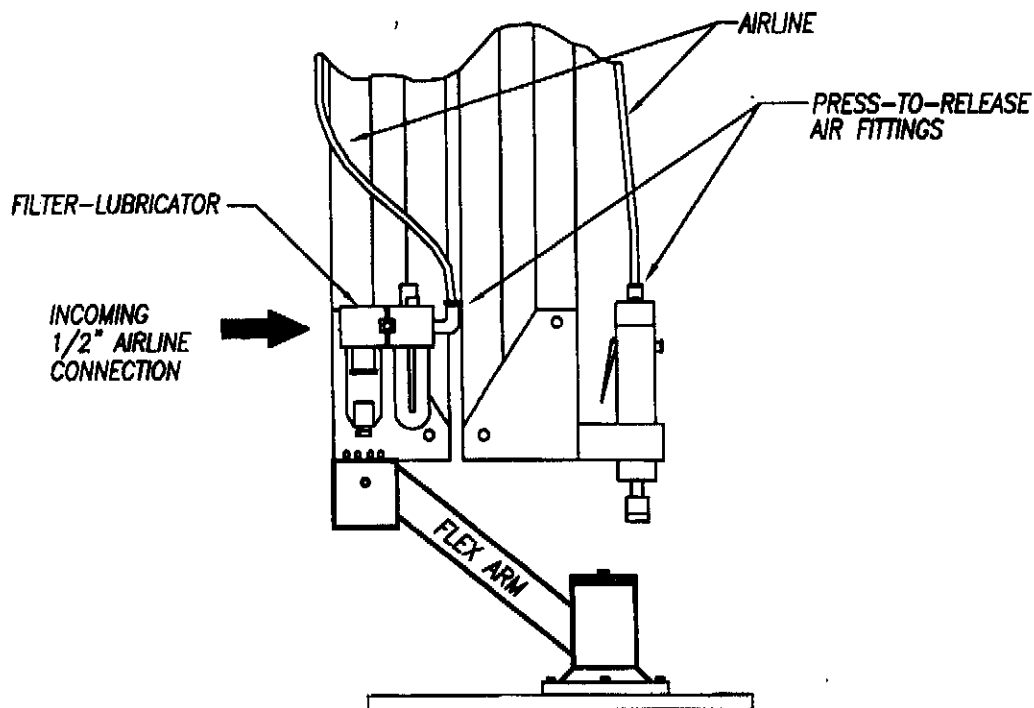

FIGURE 4
- 7) Install a 1/4 NPT fitting to the left port of the filter/lubricator assembly and attach a 1/2" ID, incoming airline to the fitting (see Figure 4). Do not use any quick disconnect fittings on the incoming airline. The unit must have the proper air supply (90-120 psi and 27-28 cfm) AT **THE MOTOR** to generate the required torque to drive the tap.
- 8) Check the airline connections to make sure the hose has not come loose from the press-to-release fittings during shipping; the hose must be completely pushed into the fittings to lock in under air pressure (see Figure 4).